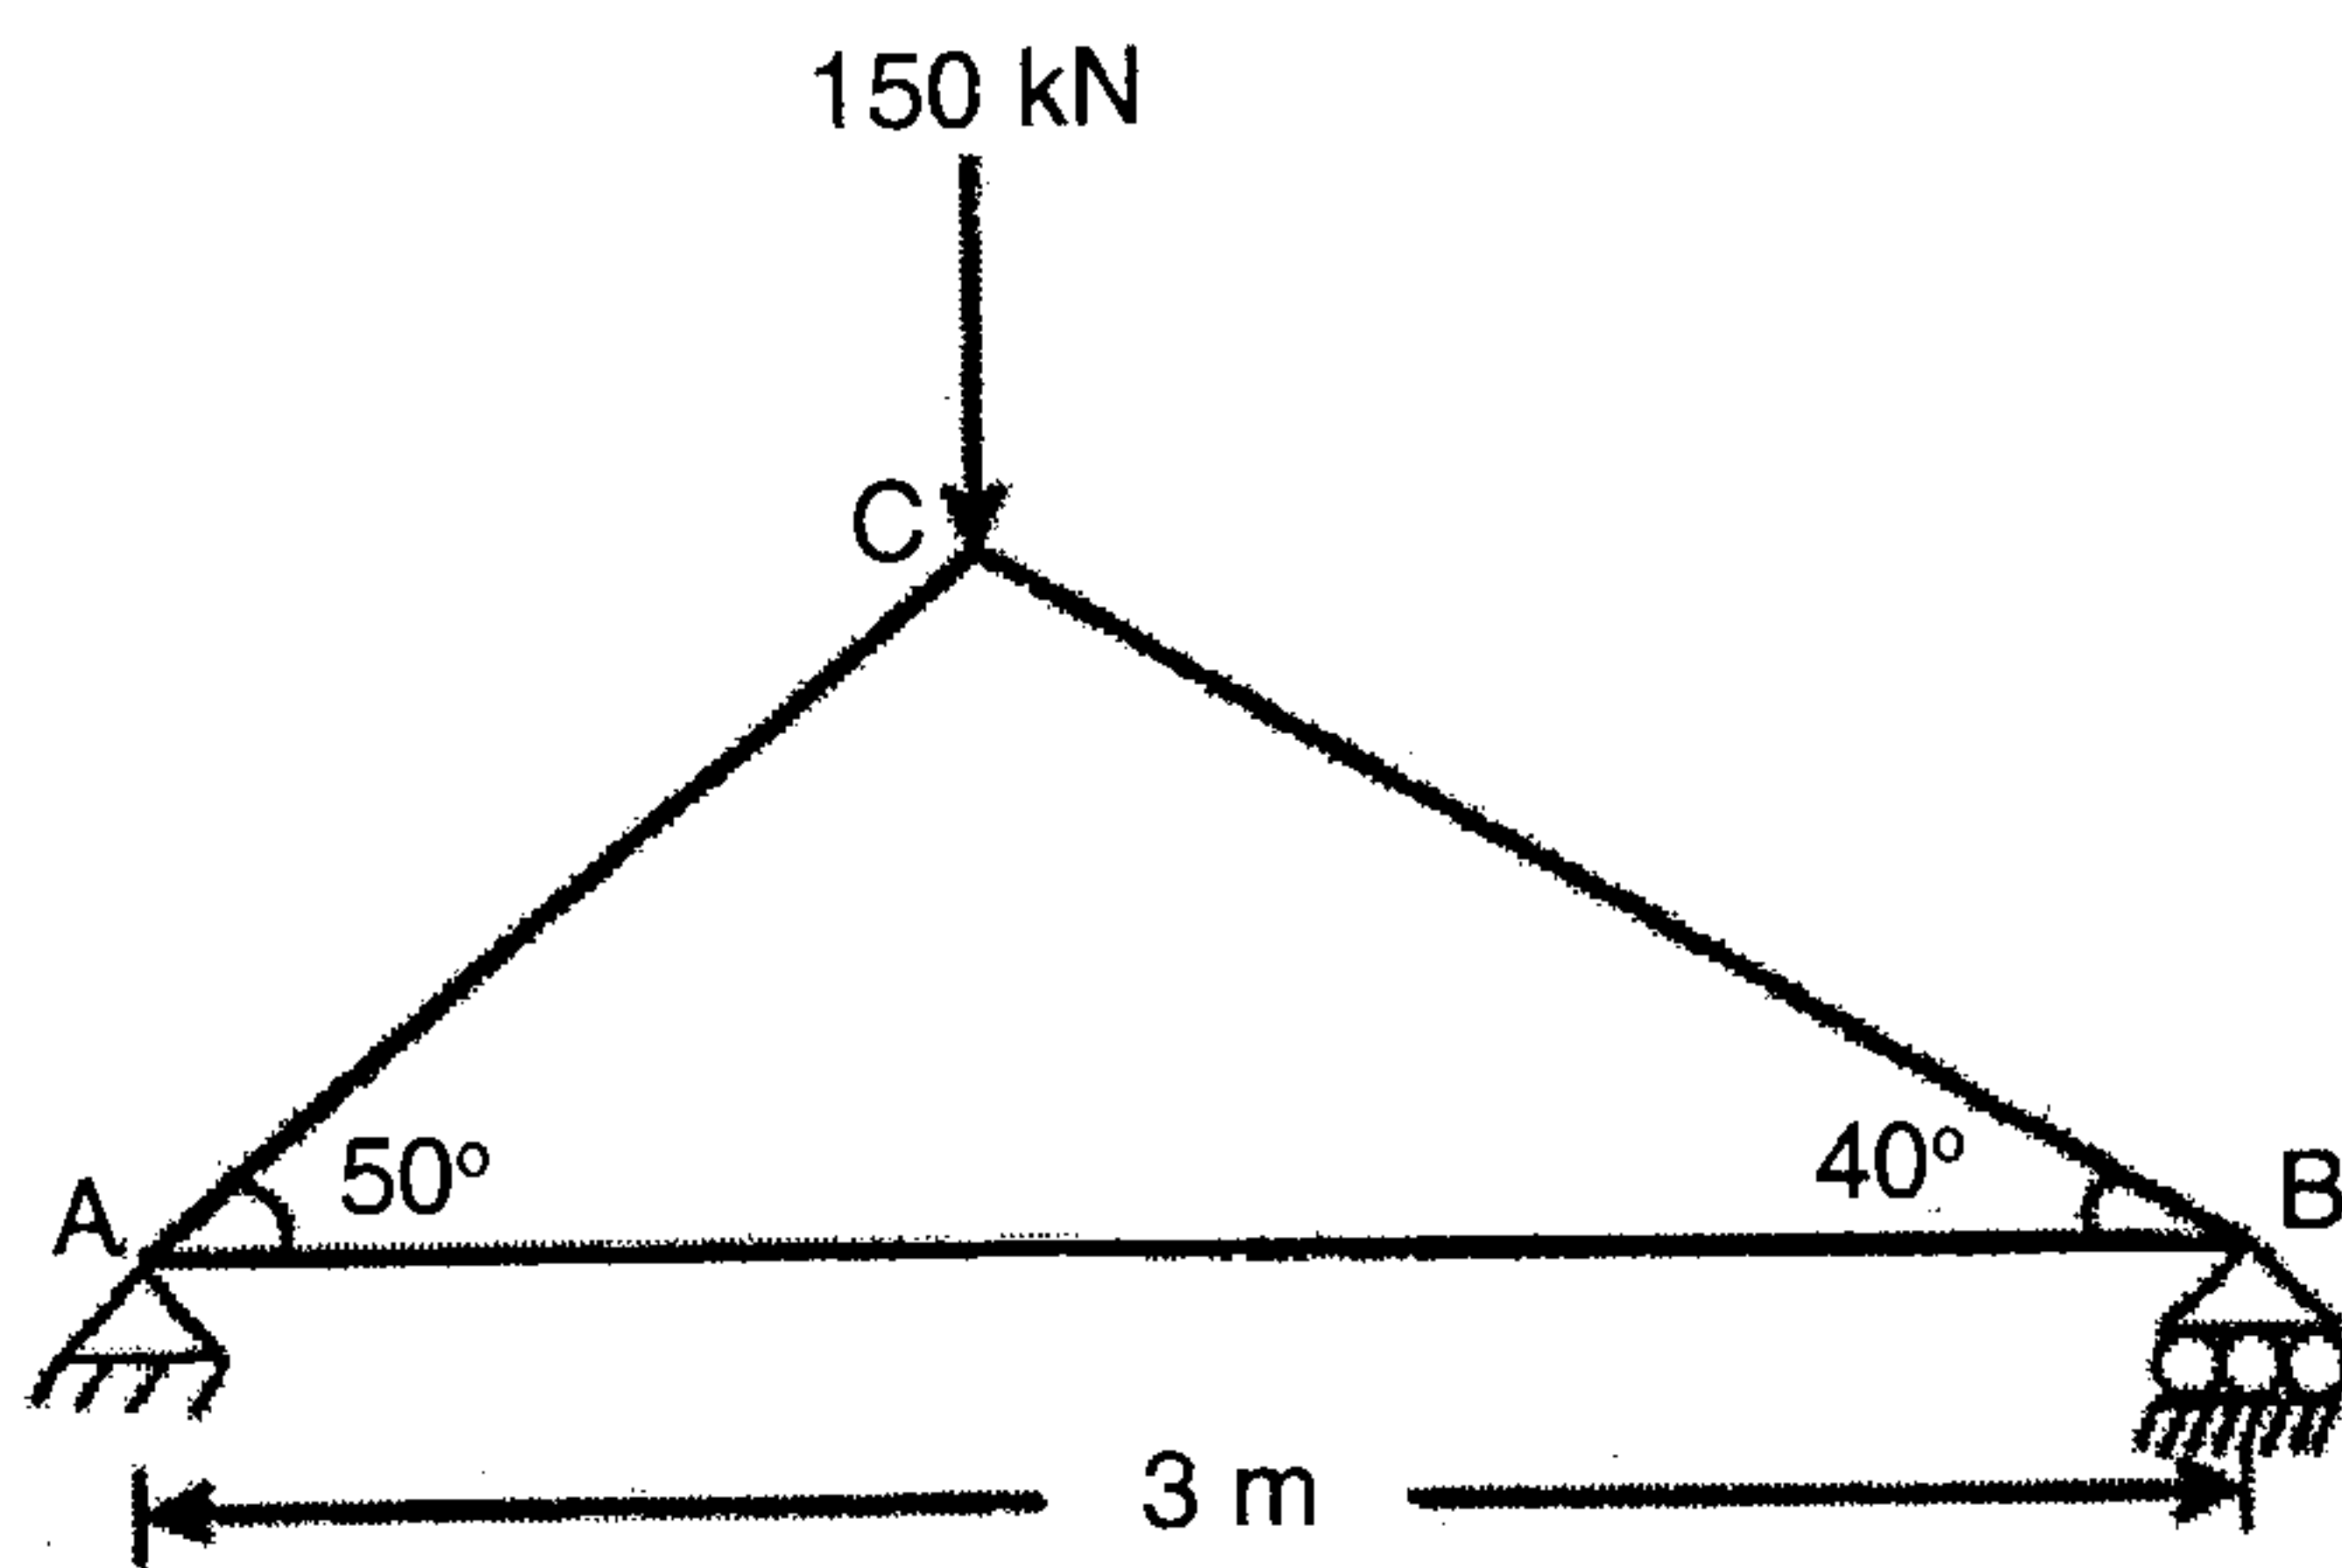

Fig. 6
12. A) For the truss shown in Figure 6, what is the element stiffness matrix for the three members ?  $E = 200 \times 10^6 \text{ kN/m}^2$  and cross sectional area for each bar =  $150 \times 10^{-6} \text{ m}^2$ . 3